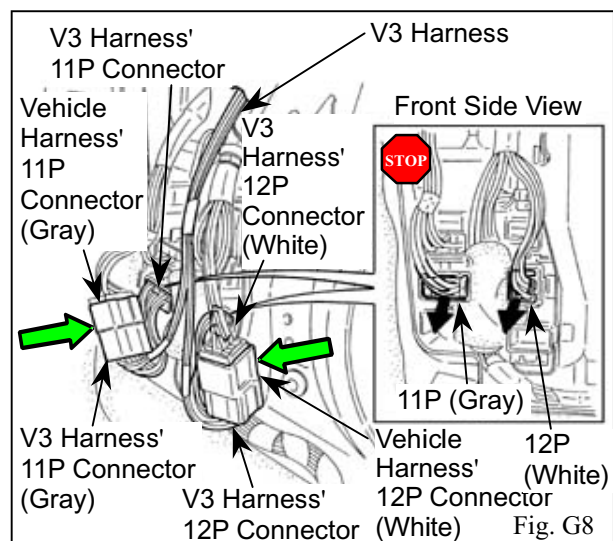

Fig. G8
13. Locate and disconnect gray 11P connector and the white 12P connector from the passenger's cowl area. (Fig. G8)
14. Plug in the V3 harness' gray 11P connector between the vehicle harness' gray 11P connector and the passenger's cowl area. (Fig. G8)
15. Plug in the V3 harness' white 12P connector between the vehicle harness' white 12P connector and the passenger's cowl area. (Fig. G8)